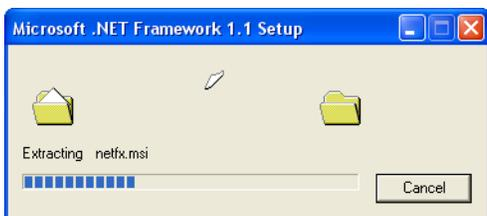

Figure 7: Microsoft .NET Setup In Progress
4. Click on the  button to begin setup of the installation. A window appears showing the progress of the setup (see Figure 7).